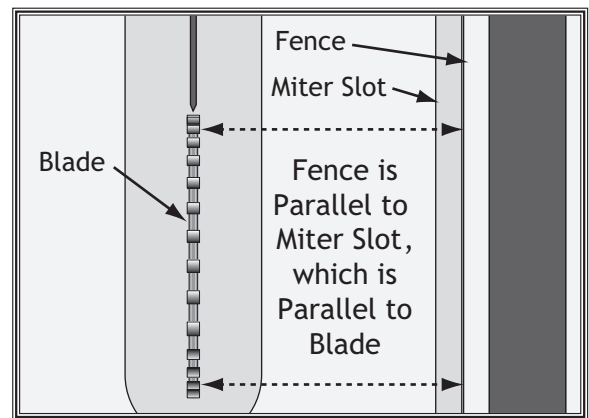

Figure 118. Checking fence parallelism with blade.
2. Slide fence against right edge of miter slot, lock it in place, then raise blade fully. Using a ruler, examine how fence lines up with miter slot and blade (see **Figure 118**).